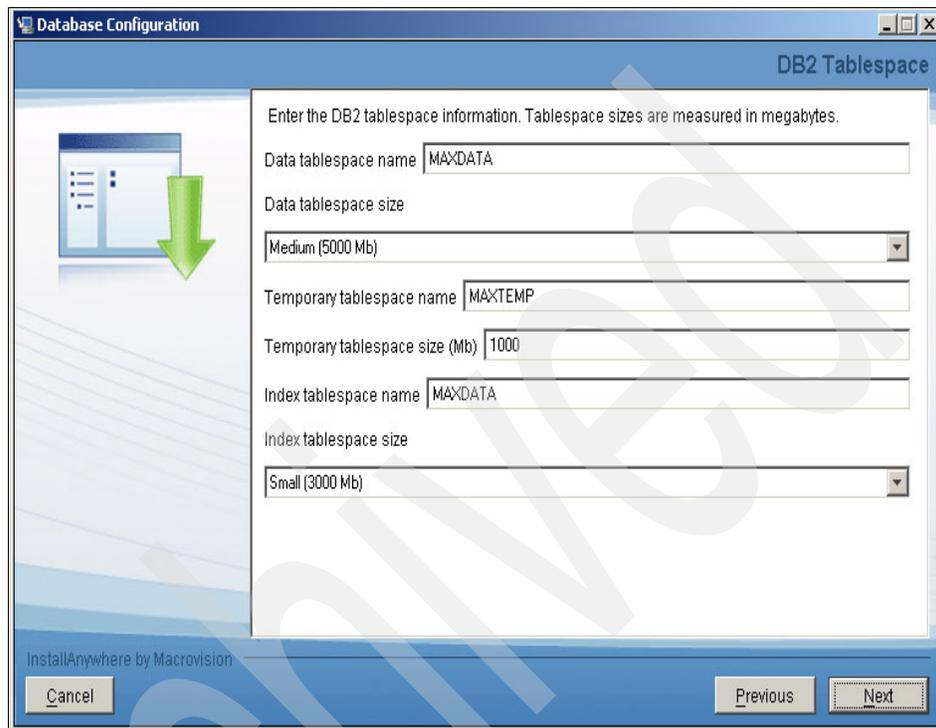

Figure 5-12 DB2 Tablespace
7. From the DB2 Tablespace panel, specify the tablespace configuration properties if you want the DB2 database automatically created (see Figure 5-12).